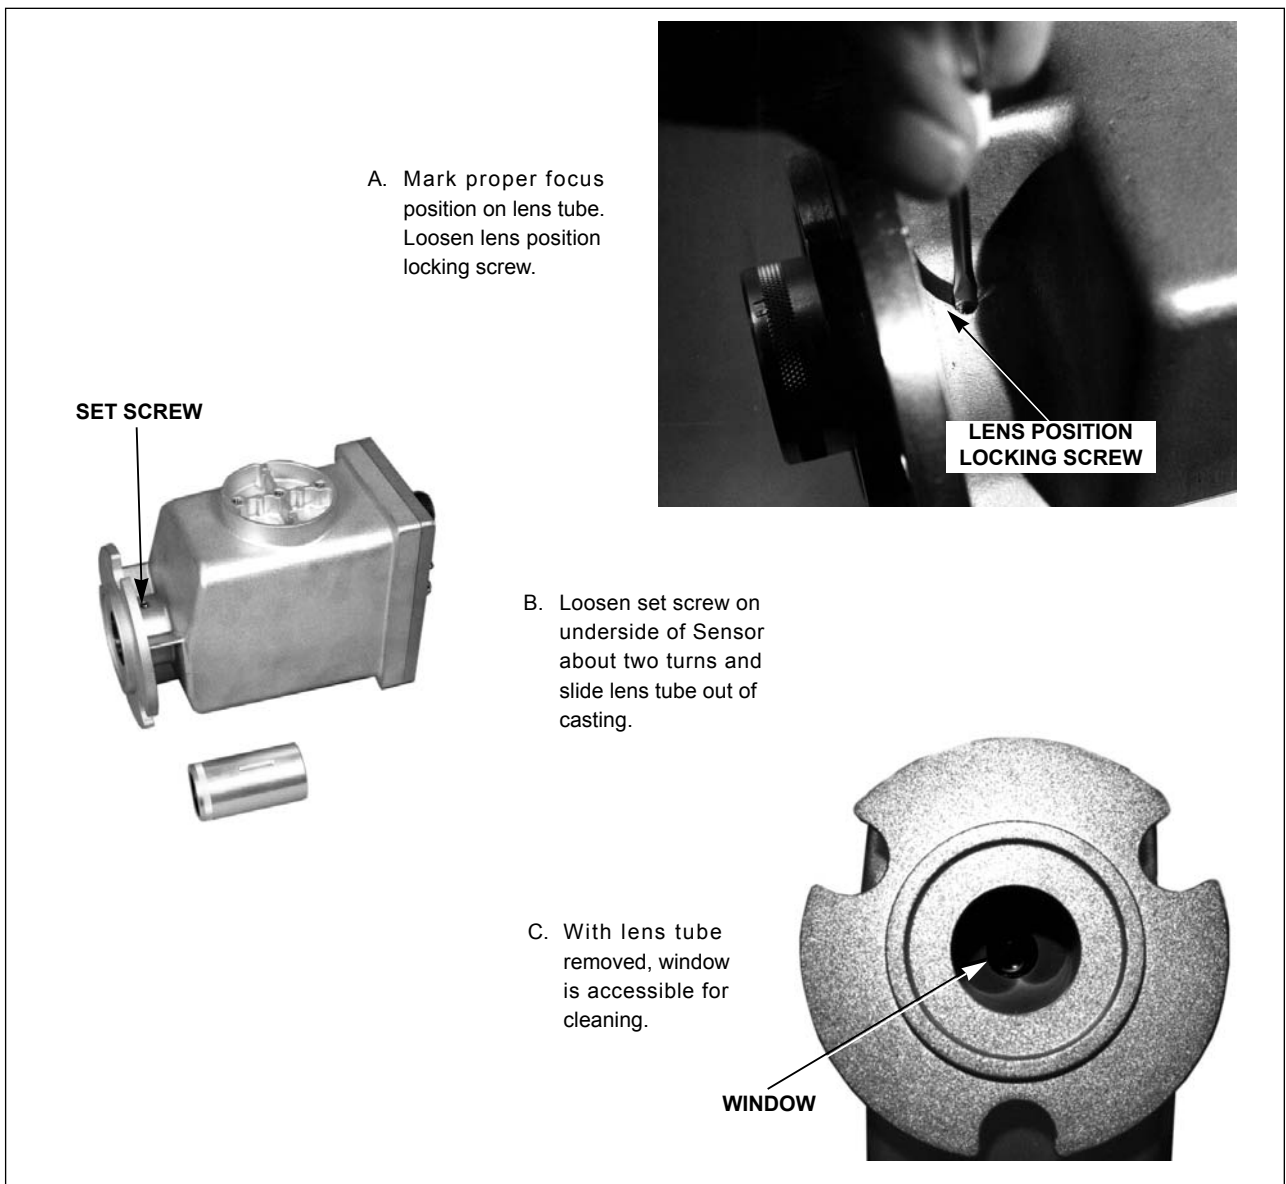

FIG. 5.1 – SLR LENS TUBE REMOVAL
1. Mark the position of the lens tube, then loosen the lens position locking screw adjacent to the top fin on the Sensor. (Fig. 5.1 A)
2. Turn the Sensor upside down and locate the recessed hex head lens-retaining set screw. Loosen and back this set screw off about two turns with a 3/32" hex wrench. (Fig. 5.1 B)
3. Slide the lens tube out of the Sensor and clean the lens and the window (Fig. 5.1 C) in the manner already described.